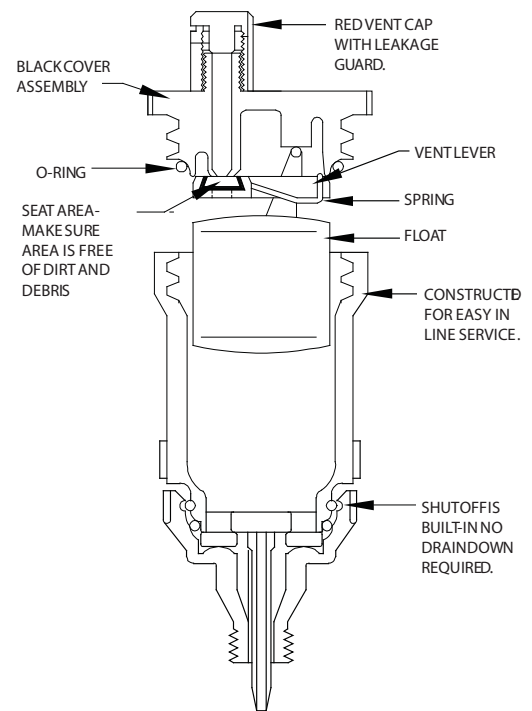

Figure 3
2. Remove the float assembly by unscrewing the top of the body and lifting the black cover assembly up. See figure 3.
5. Reinstall the clean float assembly, making sure that the O-ring is not damaged and is seated properly. See figure 3.
7. Operate by turning the air release valve body counter-clockwise to the open position. **HAND-TIGHTEN ONLY.** See figure 3.